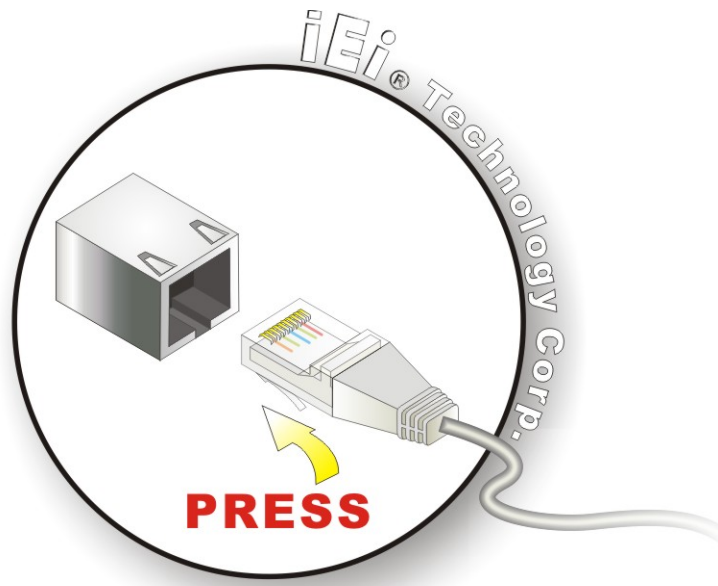

Figure 4-18: LAN Connection
Step 2: **Align the connectors.** Align the RJ-45 connector on the LAN cable with one of the RJ-45 connectors on the bottom panel of the AFL2-12A-D525. See **Figure 4-18**.